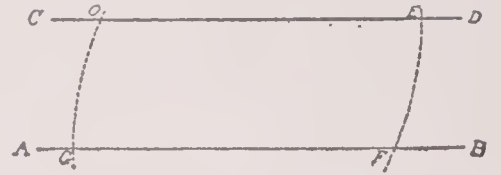

Fig. 7
7. To draw a parallel to a given line from a point outside (Fig. 7):